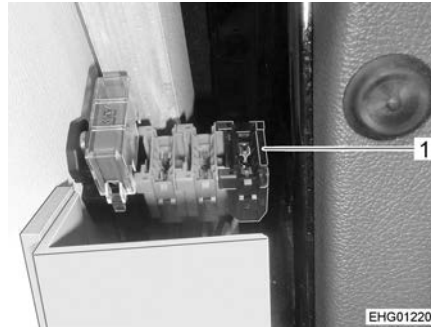

Fig. 169 Fuse holder in left-hand drive vehicles (Ford)
- Replace the fuse on the fuse holder (Fig. 169,1).